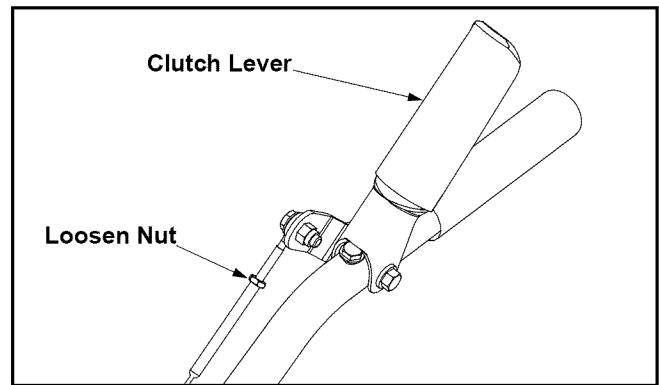

Figure 3
- To adjust the cable, loosen the nut near the top of the cable and unscrew the cable to provide additional slack in wire. See Figure 3.